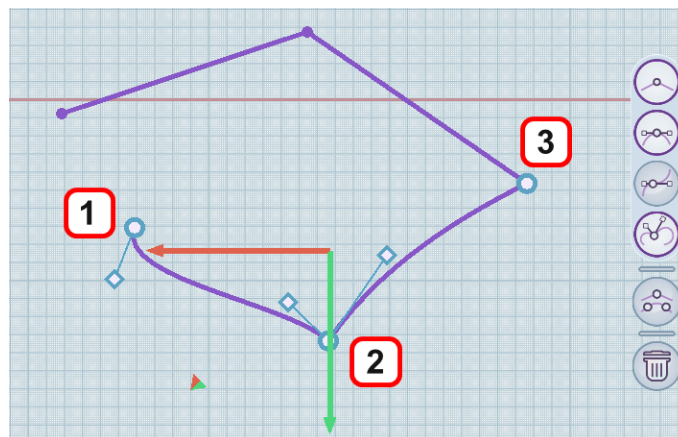

Figure 81 – Three spline points are selected
When the spline editing mode is turned on, you can select several points of the spline using a frame or the **Multiple Selection** tool (see 2.4.4 Multiple Selection). One common Gizmo manipulator will be displayed for the selected points. A controller will be displayed for each bending point. The context menu will display buttons for working with points (buttons corresponding to the types of selected points are active in the menu). You can change the type of all selected points, delete them all, round/cut them all. In Figure 81, three spline points are highlighted: two bending ones (with symmetrical (1) and broken (2) controllers) and a straightening one (3), so the buttons are active in the context menu , and .